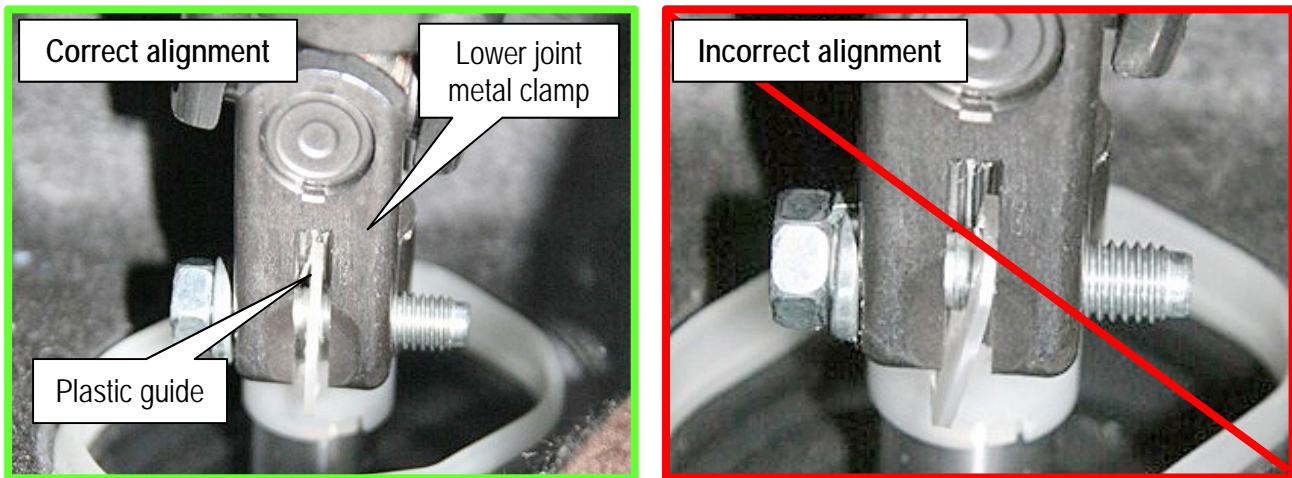

Figure 5
13. Verify that the lower joint is correctly aligned as shown in Figure 5.
- If the plastic guide is not parallel with the sides of the metal clamp of the lower joint, disconnect the metal clamp from the steering gear and realign as shown in Figure 5.